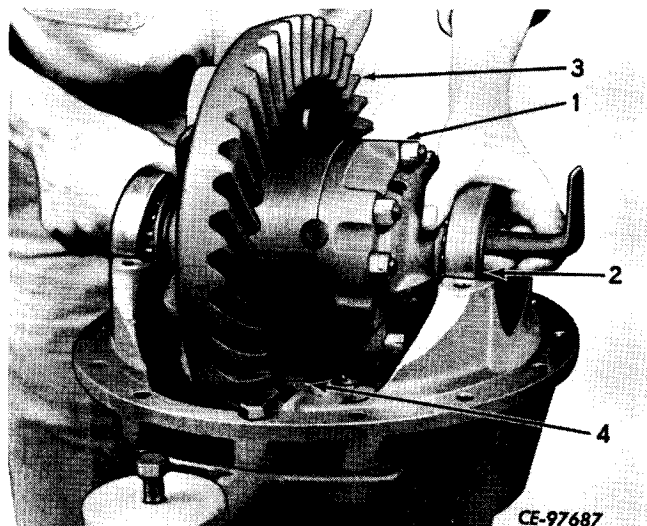

Figure 6-26
Lift differential assembly (1, Fig. 6-26) from case, tipping it slightly so ring gear (3) clears pinion shaft bearing boss (4). Remove both carrier bearing cups (2) and tag for identification on assembly.